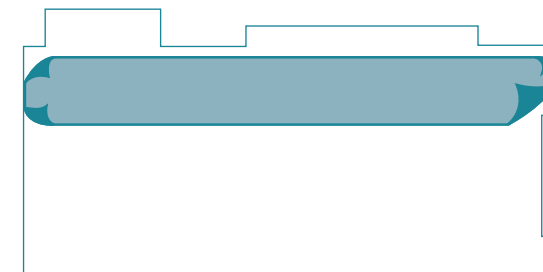

Figure 1 Lining up the First Sheet
- > Adjust the lie of the sheet so that the inner edge is parallel with the axis of the room (fig. 1).